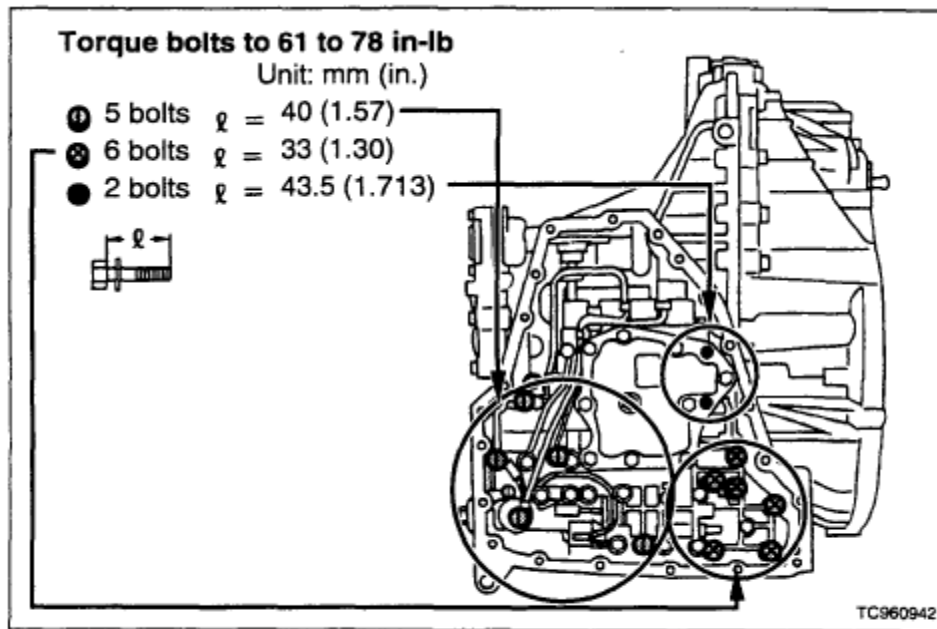

Figure 2
1. Remove the thirteen, 10 mm bolts holding the control valve assembly to the transmission. Remove the control valve assembly (Figure 2).
5. Reinstall the control valve assembly and torque the thirteen retaining bolts to 61-78 in-lb. **Note** the different bolt lengths and locations shown in Figure 2.